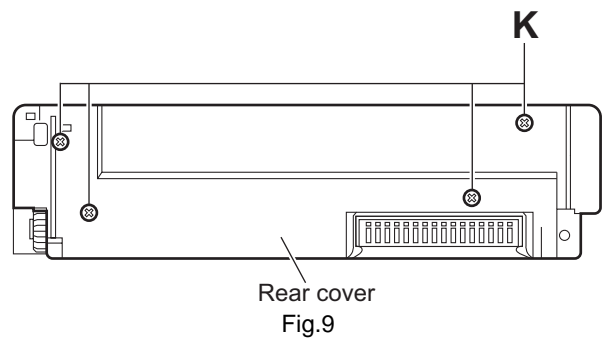

Fig.9
3.1.8 Removing the front board (See Figs.9 to 11)
- (1) Remove the four screws **K** on the back side of the front panel assembly. (See Fig.9.)